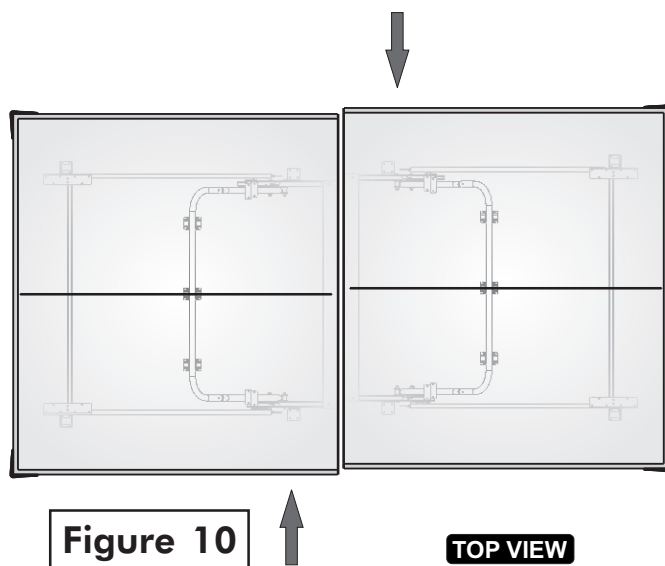

Figure 10
IF TABLE IS NOT ALIGNING CORRECTLY: (see Figure 10)
3. With the help of two other adults, push the two table top halves so they are in line with each other and re-tighten the Wing Nuts (#32) as shown in Figure 10.